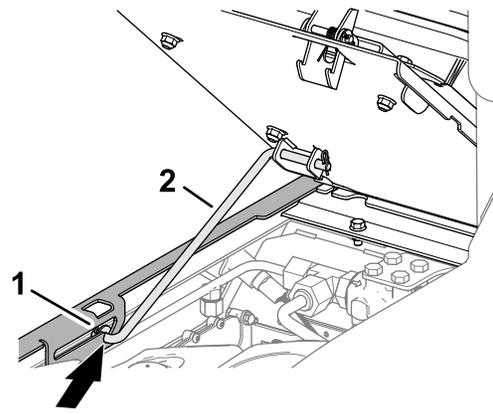

Figure 64
3. Ensure that the forward prop rod seats in the slot detent of the rod-guide plate (Figure 64).